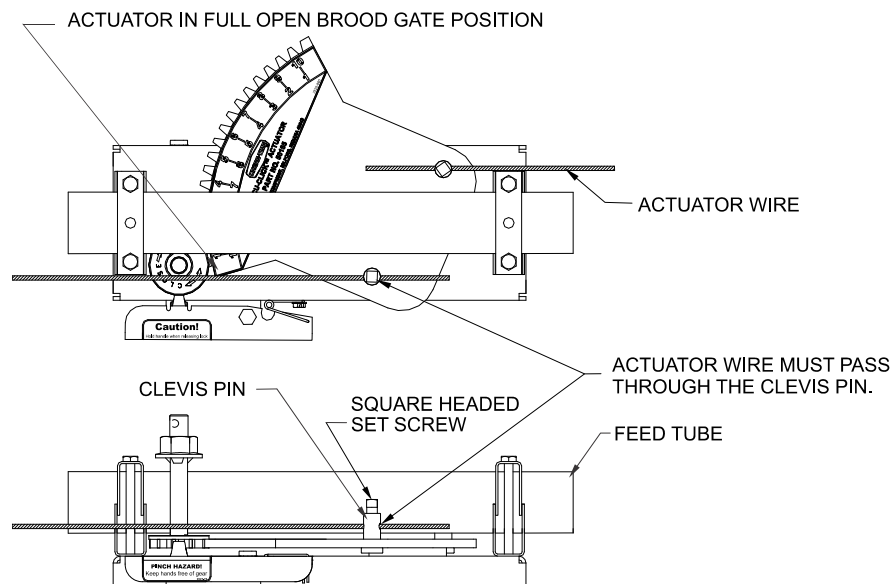

Figure 57. Actuator Wire at ACCU-CCLICK™ Actuator.
- Position the actuator in the “Fully Open Brood Gate Position” (**Figure 57.**) if it is not already in the “Fully Open Brood Gate position”.
- Tighten the set screws on the clevis pins so they clamp down on the actuator wire, (**See Figure 57.**)